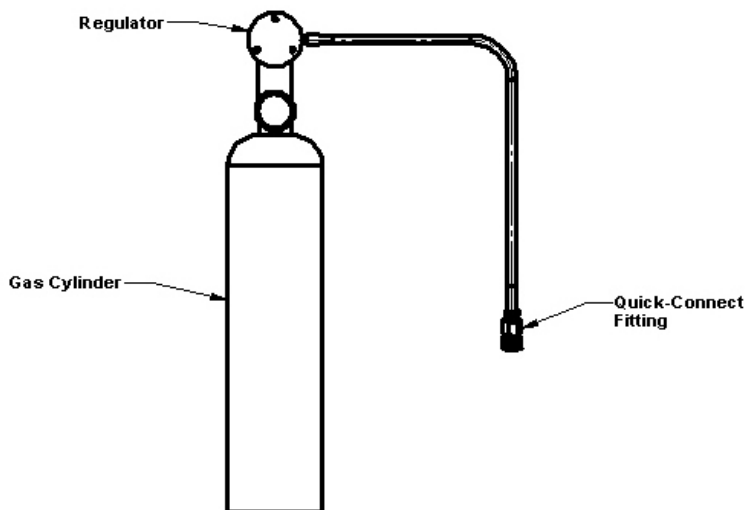

Figure 5. Manual calibration apparatus (Part No. PCA-302).
5. After "bloc" appears on the display, connect the calibration gas (see Figure 5). The "bloc" display will be replaced by "go" and the instrument will calibrate the catalytic combustion and CO sensors.
The components of the manual calibration apparatus are shown assembled in Figure 5, they include: